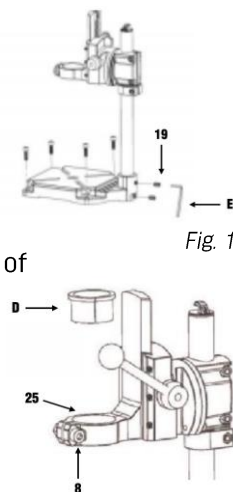

Fig. 2
3. Insert the electric drill into the clamp (#25). Use the bush (D) with the thickness that best accommodates the neck of the drill and then tighten the lock bolt (#8) using the appropriate hex key (Fig. 2).